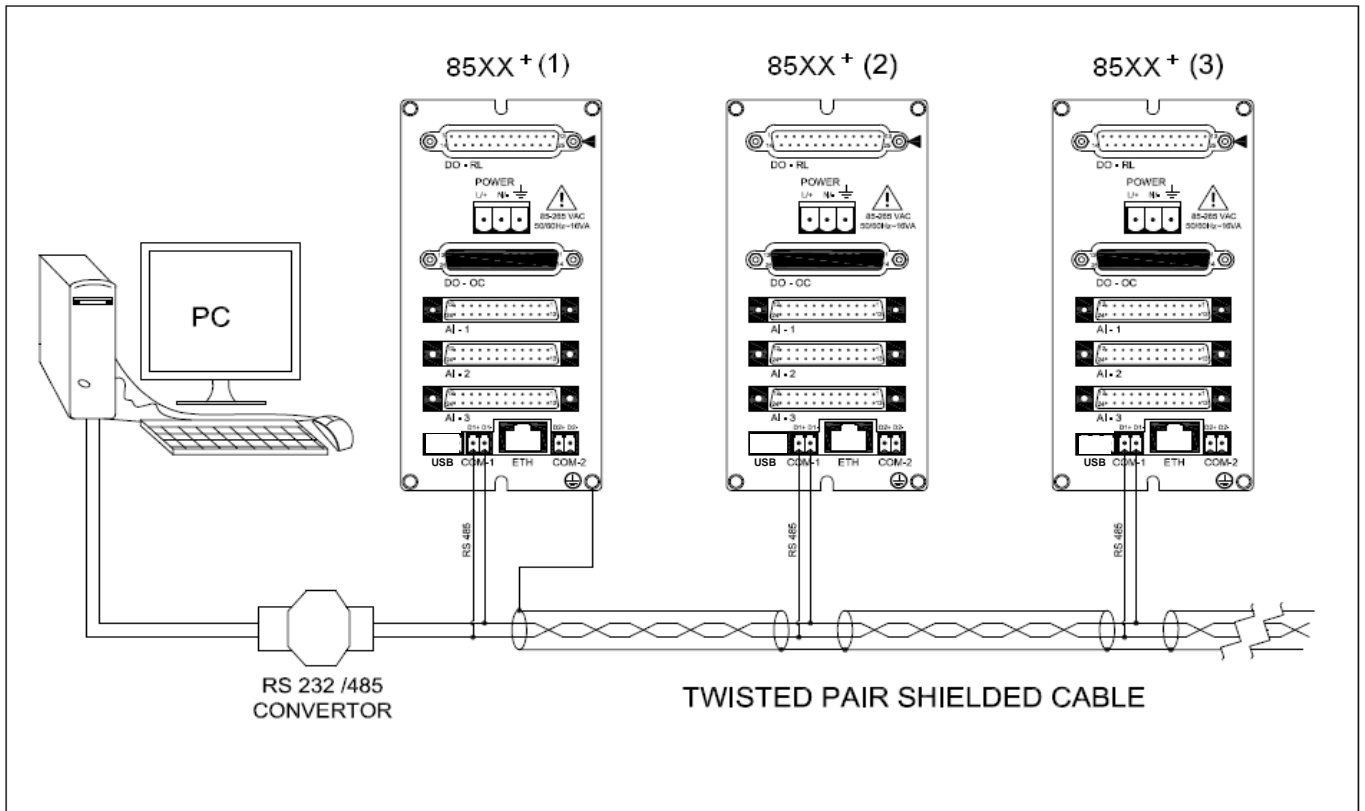

Figure 13 Communication Cable Connection
Note: Above figure 13 is with 24 pin Analog Input Cable Connector.
- 2) Figure 13 respectively for 24 pin analog input connector and Figure 6A, Figure A, Figure 7A ,Figure 9A, Figure 11A,